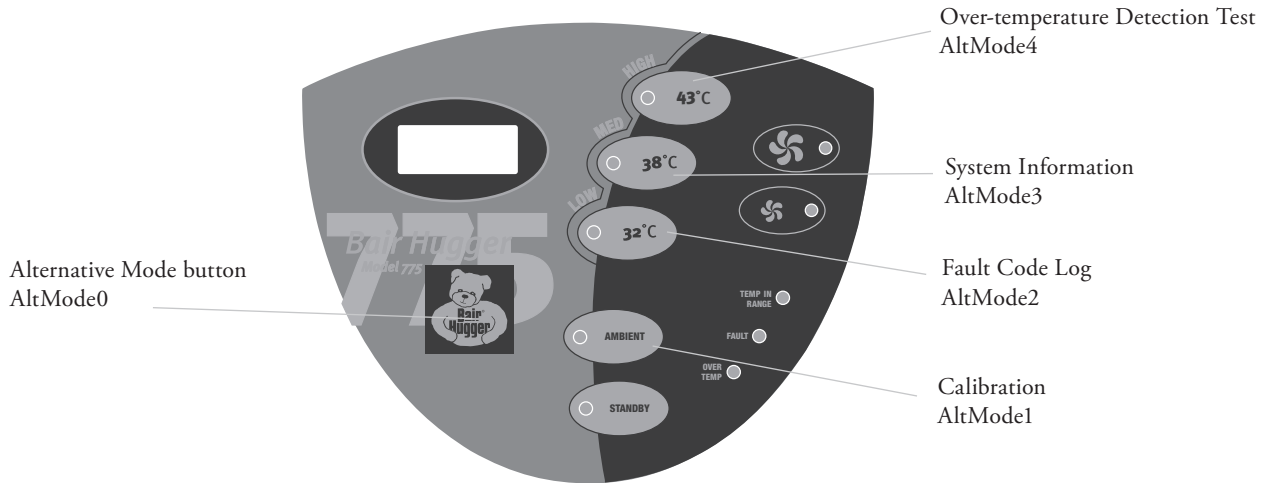

Figure 2. Location of Alternative Mode button
To enter one of the alternative modes, press the alternative mode button in combination with one of the operating mode buttons, also located on the front panel. Figure 2 indicates which keys must be pressed to enter each of the 5 alternative modes. When the correct combination of keys is pressed, the display reads “Hold for AltModeX,” where “X” represents the selected alternative mode.
4. Press the **Alternative Mode** button (see Figure 2 on page 8) and the **Ambient** button simultaneously for 3 seconds. The temperature management unit is now in *Calibration* mode. In this mode, the temperature management unit performs the following tasks:
4. Press the **Alternative Mode** button (See Figure 2 on page 8) and the **43°C** button simultaneously for 3 seconds. The temperature management unit is now in the *Over-Temperature Detection Test* mode. In this mode, the temperature management unit performs the following tasks:
2. Press the **Alternative Mode** button (see Figure 2 on page 8) and the **32°C** button simultaneously for 3 seconds. The temperature management unit is now in *Fault Code Log* mode. In this mode, the temperature management unit performs the following tasks: